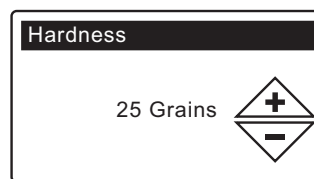

FIG. 19
- 7. HARDNESS** Press the UP (▲) or DOWN (▼) buttons to set the value of your water’s hardness (See Figure 19).